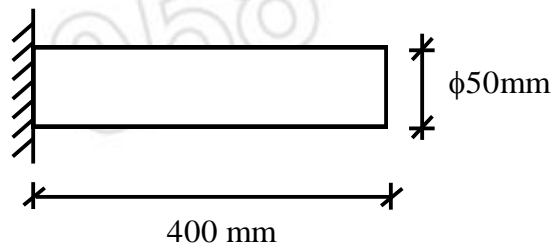

Fig. 8 (c)
- c) Find the natural frequency of free vibration for the bar as shown in the figure 8 (c). **13**